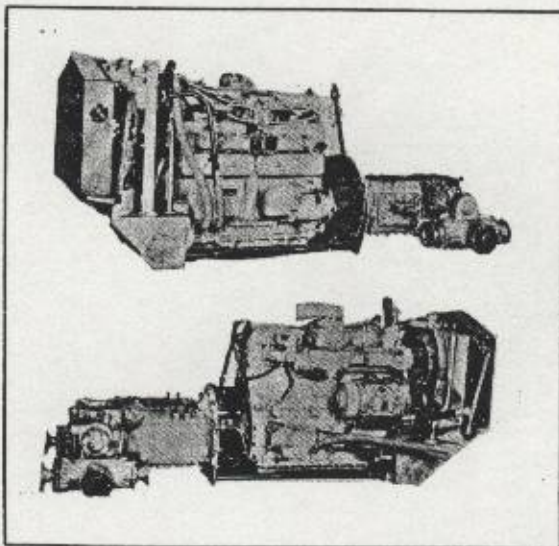

FIG. 1 - POWER UNIT
5. The six cylinder dry sump engine has a compression ratio of 6.4 : 1, and develops 96 b.h.p. (net) at 3,300 r.p.m. Dry weight including fluid flywheel, 812 lb. When it is necessary to remove the engine from the hull, it will be removed complete with radiator, fan assembly, oil tank, gearbox and transfer case. Dry weight of complete unit as at Fig. 1, 1,428 lb.